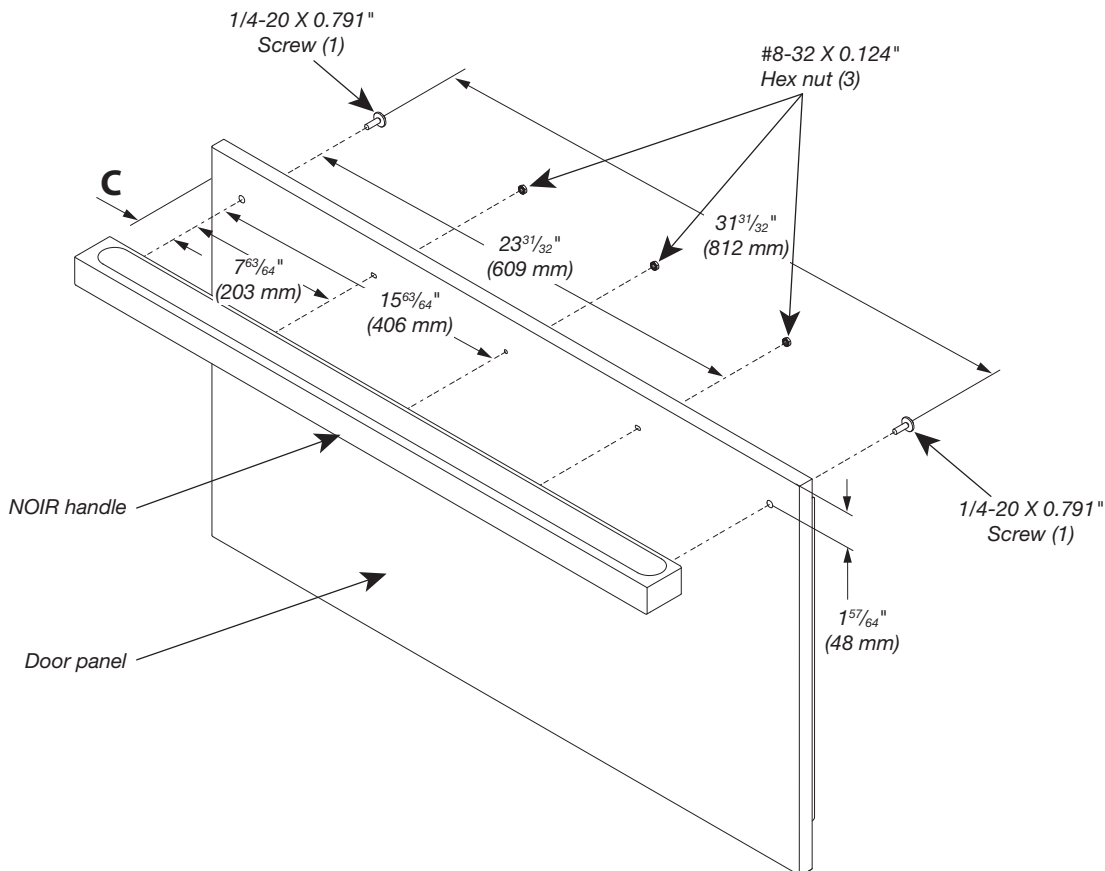
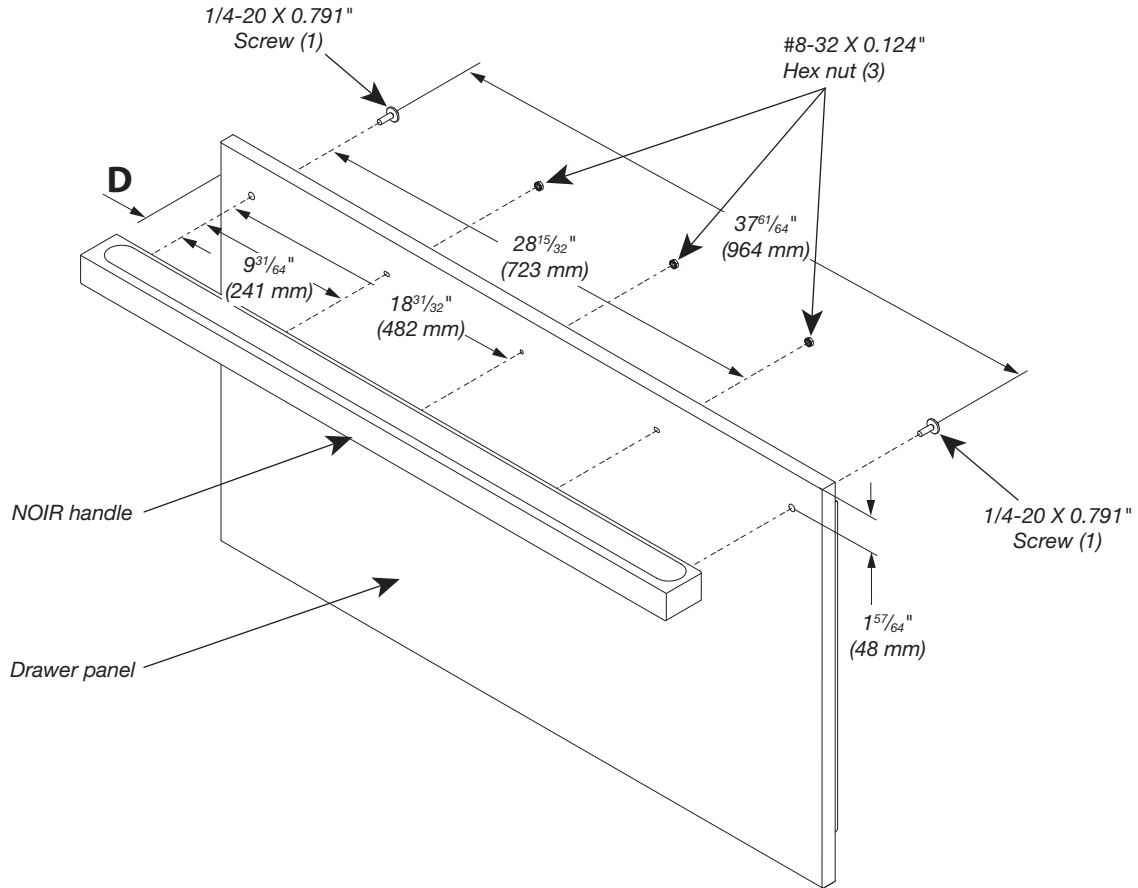

Figure 3 - 36" 2 Door bottom mount/36" french door bottom mount freezer drawer
Figure 4 - 42" French door bottom mount freezer drawer
- For model specific hole locations and the spacing requirements of NOIR handle mounting, refer Figure 3 and Table 2 (36" Bottom Mount/French Door Bottom Mount Models), Figure 4 and Table 3 (42" French Door Bottom Mount Models). The horizontal position of the handle is dependant on the panel reveal.
1. Measure 'C' (36" Bottom Mount) or 'D' (42" French Door) from the side of panel and mark the hole locations as shown in Figure 3 and Figure 4. Refer Table 2 and Figure 3 (for 36" Bottom Mount) or Table 3 and Figure 4 (for 36" Bottom Mount/French Door Bottom Mount Models) depending on panel configuration.